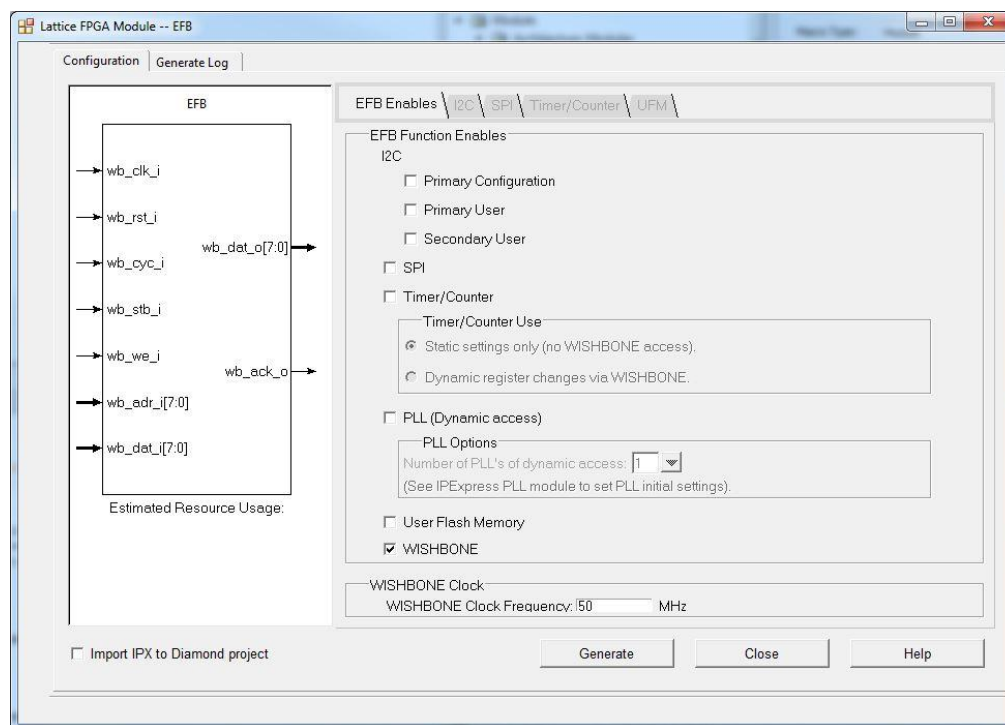

Figure 5.2. Generating an EFB Module wit IPExpress
4. The EFB configuration dialog appears. The left side of the EFB window displays a graphical representation of the I/O associated with each IP function. The I/O pins appear and disappear as each IP is enabled or disabled. Check the tab for **WISHBONE**, and enter the **WISHBONE Clock Frequency**. An example EFB with all features enabled is shown in Figure 5.2.